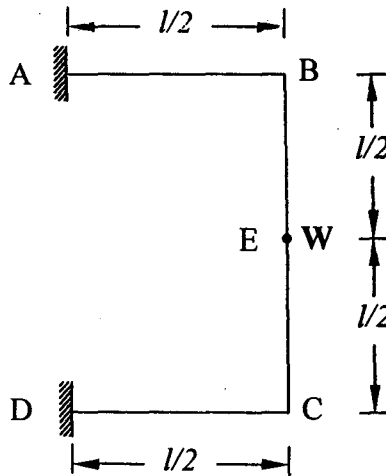

Fig. Q.9
- Q.9** A circular section of radius 'r' is bent in the form shown in Fig. Q.9. It is fixed at 'A' and 'D'. It is loaded by a point load 'W' at the mid-point of the portion BC. Draw the bending moment and shear force diagrams and find the deflection at the mid point of BC. [Take $G = 0.4E$, $J = 2I$]